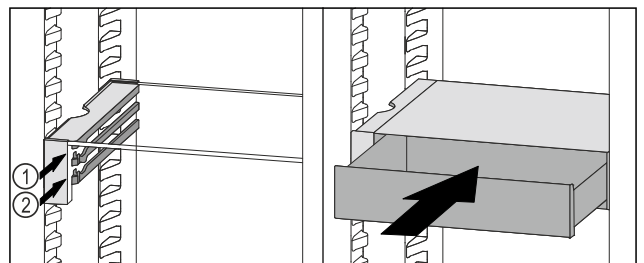

Fig. 53
- Place the VarioSafe drawer behind the stoppers on desired rib Fig. 53 (1) or Fig. 53 (2).